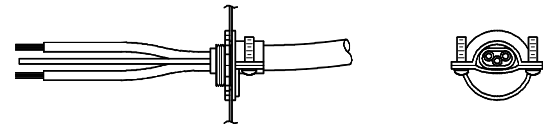

FIGURE 10
- E. Tighten the strain relief clamp to secure the 115 VAC supply wire. **DO NOT OVERTIGHTEN** (See Figure 10). Reinstall the selector switch control box cover.